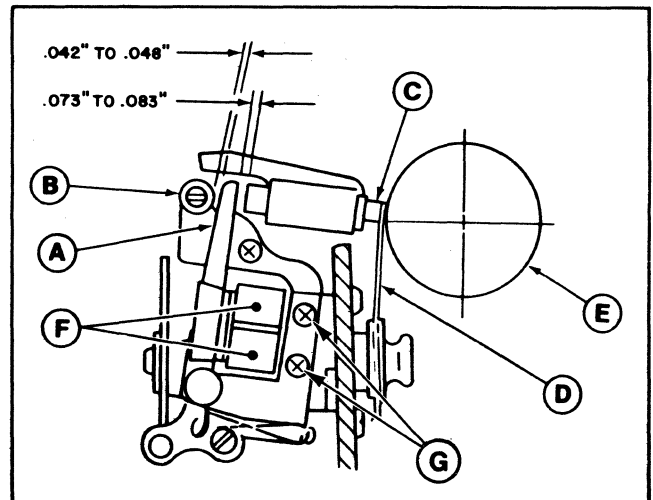

Figure 3-18. Hammer Adjustments
3.4.1.4.8 **Hammer.** There are two hammer adjustments: hammer coil position and armature stop eccentric. These adjustments are simplified when tool no. 40796 is used, but they can be performed without it if necessary. Refer to Figure 3-18.